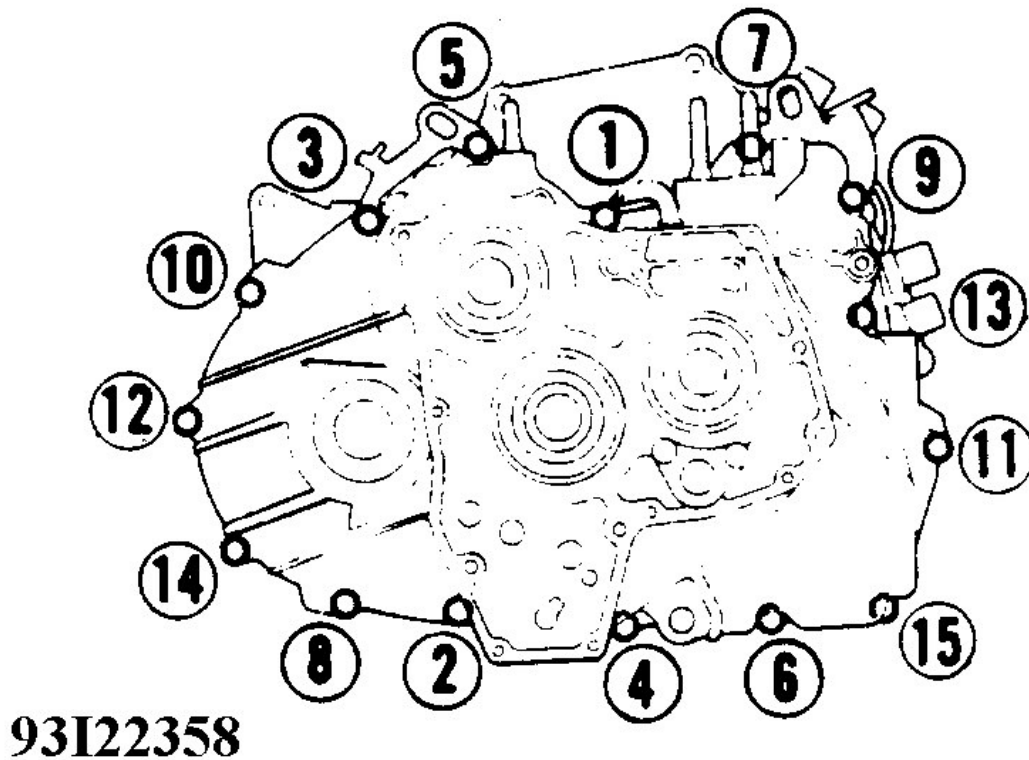

Fig. 29: Transaxle Housing Bolt Tightening Sequence
21. Install transaxle housing on torque converter housing. Install and tighten bolts to specification in sequence using several steps. See **Fig. 29** . See **TORQUE SPECIFICATIONS** .
(1) On some 1991 models, lock nut may have been updated. Ensure proper lock nut is used. See **TECHNICAL SERVICE BULLETINS** at the end of this article.
(2) Tighten bolt to 108 INCH lbs. (12 N.m).
(3) Tighten bolts to specification in sequence. See **Fig. 29** .